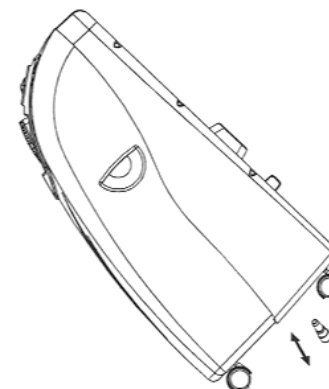

FIG. 26
- Lean the unit and take out the rubber plug at the bottom of the unit. FIG. 26